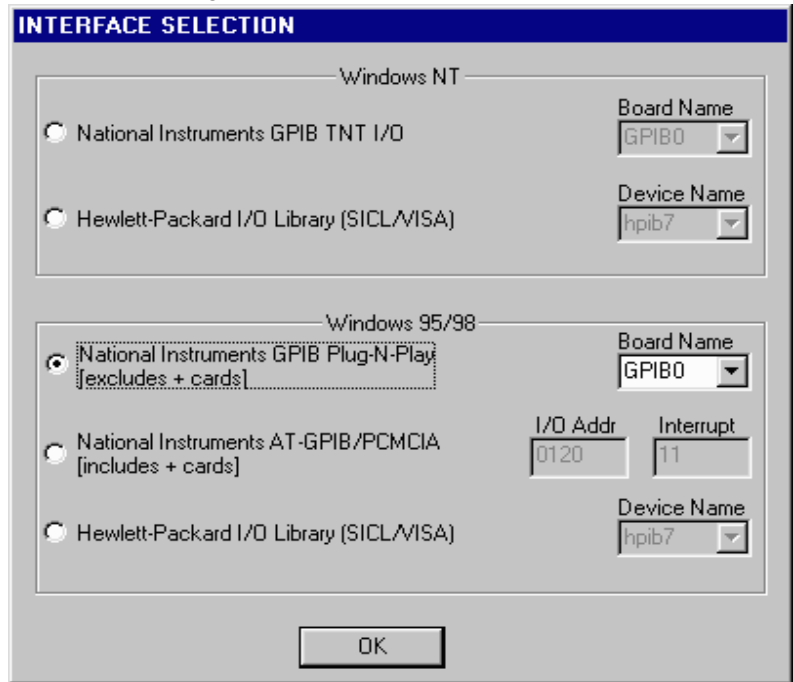

Figure 8 *Interface Selection Window*
13. Near the end of the installation procedure, the **Interface Selection Window** is displayed. Select the appropriate interface for your system then click **OK**. See Figure 8.